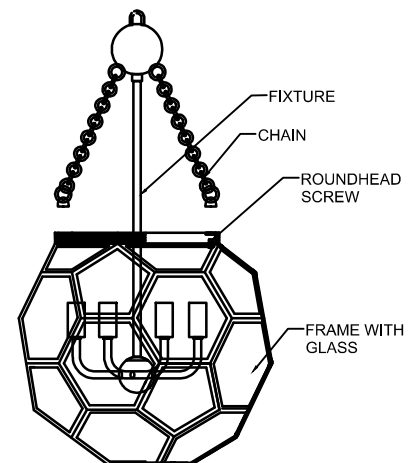

FIGURE-03
4. Attach the frame with glass to the chain links on fixture using round head screws. (See Figure -03)